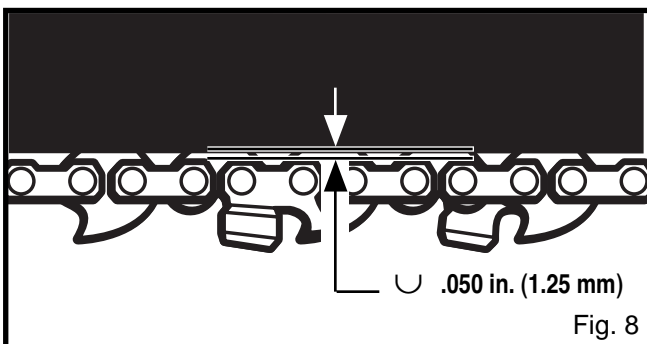
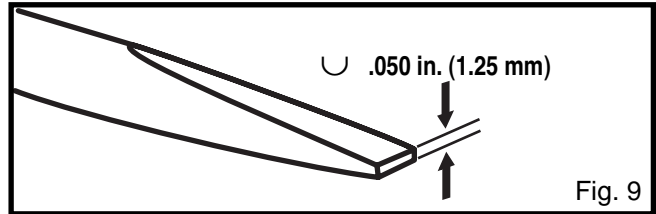

Fig. 8
Fig. 9
3. During normal operation, the temperature of the chain will increase. The drive links of a correctly tensioned warm chain will hang approximately .050 in. (1.25 mm) out of the bar groove. See Figure 8. To help determine the correct warm chain tension, the tip of the combination wrench can be used as a guide. See Figure 9.